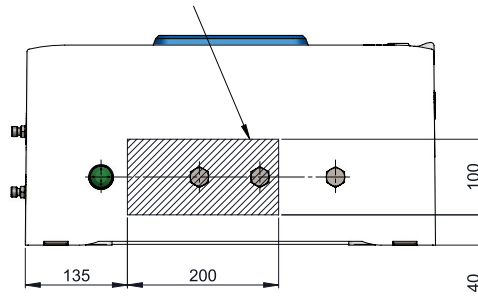

Figure 3.1 - The bottom face view of the MTL GIR6000 enclosure showing area for alternative or additional holes
- e) An entry for the power cable is provided, additionally two entry holes have been included adjacent to the power cable entry for the installers wiring. Any alternative or additional gland holes made by the installer must be kept within the area indicated on the bottom of the enclosure, please refer to figure 3.1. All holes made by the installer/user must be fitted with either a suitable cable gland or blanking plug. All glands or blanking plugs fitted to the enclosure must be appropriately certified (e.g. ATEX) and have an Ingress Protection (IP) rating of at least IP65, and an operating temperature range of at least -15°C to $+60^{\circ}\text{C}$.